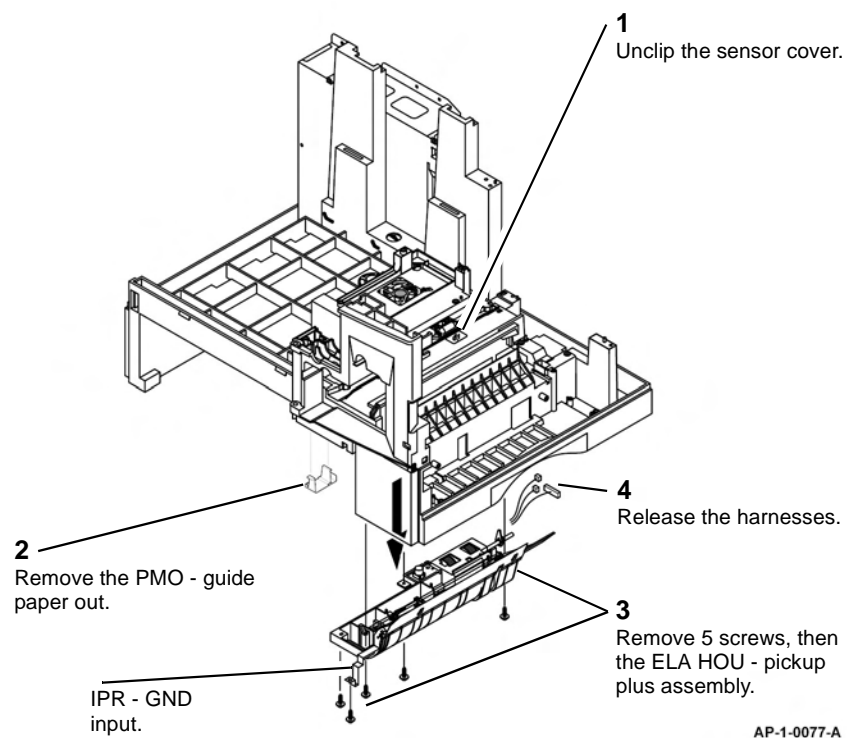

Figure 4 ELA HOU - pickup plus assembly removal
6. Remove the ELA HOU - pickup plus assembly, Figure 4.